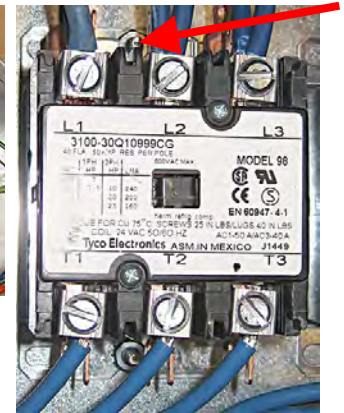

Figure 2
5. Remove the nuts securing the old contactor (see Figure 2).